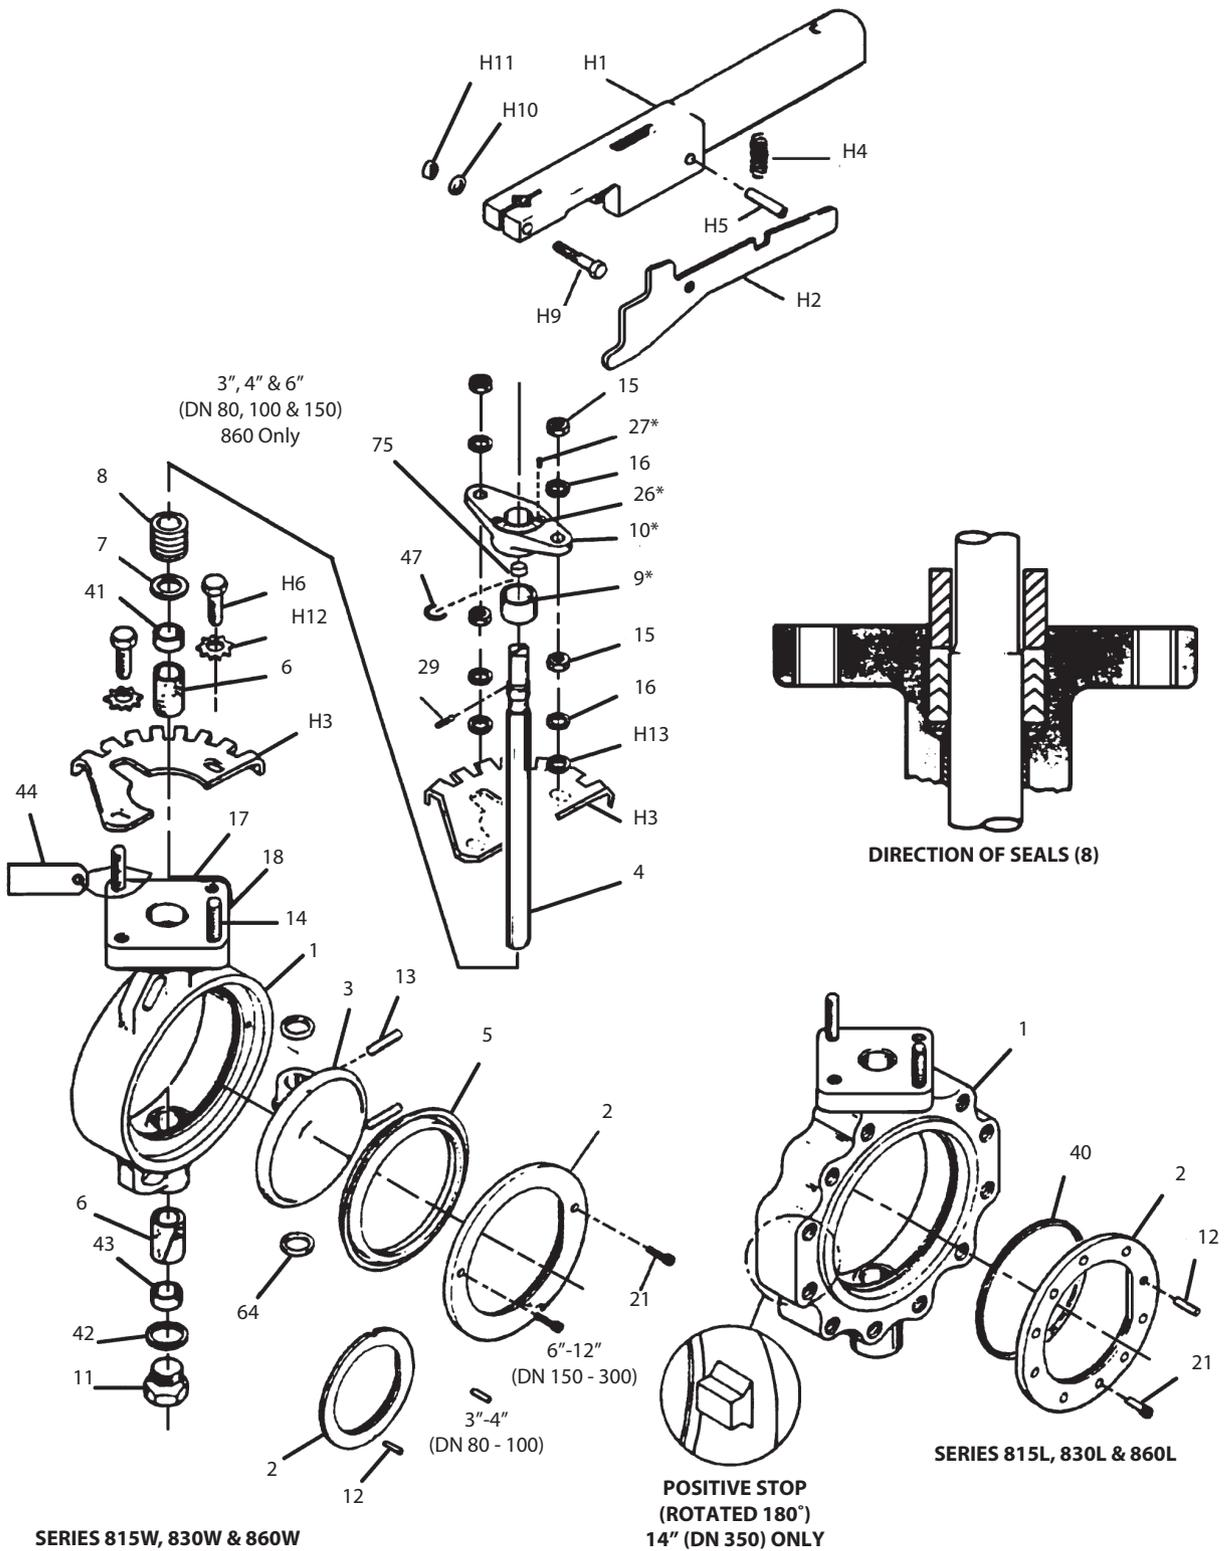

Figure 18
3. If the handle (H1 in **Figure 18**) has been removed from the valve, reinstall it on the shaft drive square and tighten the nut (H11). The handle should be installed so that it is parallel with the disc (3) in order to provide visual indication of disc position when viewed from a distance. With the handle locking tab in the last (closed) notch of the ratchet plate, rotate the ratchet plate clockwise (when viewed from above the handle) until it is stopped by the locking tab. The disc/handle assembly is now lightly trapped between the insert and the ratchet plate.
4. Tighten the two nuts (15) and two screws (H6) holding the ratchet plate.
- From **Figure 18**, the ballooned part number, part name and quantity required.